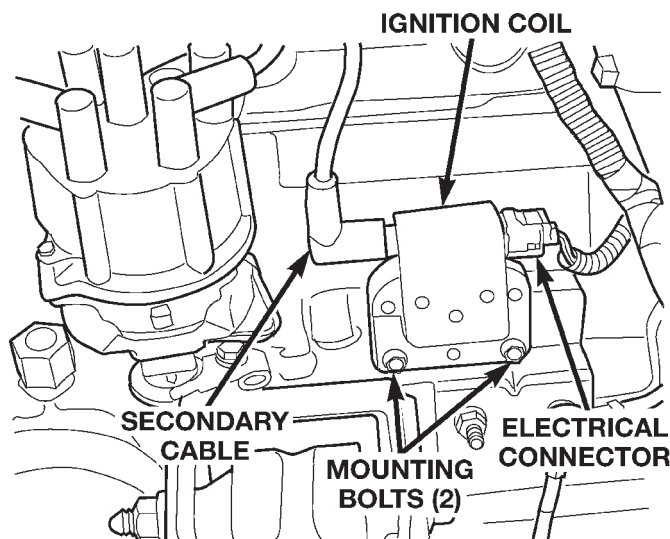

Fig. 28 Ignition Coil—4.0L Engine
The ignition coil is mounted to a bracket on the side of the engine to the front of the distributor (Fig. 28).
(1) Disconnect the ignition coil secondary cable from ignition coil (Fig. 28).
(2) Disconnect engine harness connector from ignition coil.
(3) Remove ignition coil mounting bolts (nuts may also be used on back side of bracket).
(4) Remove coil.